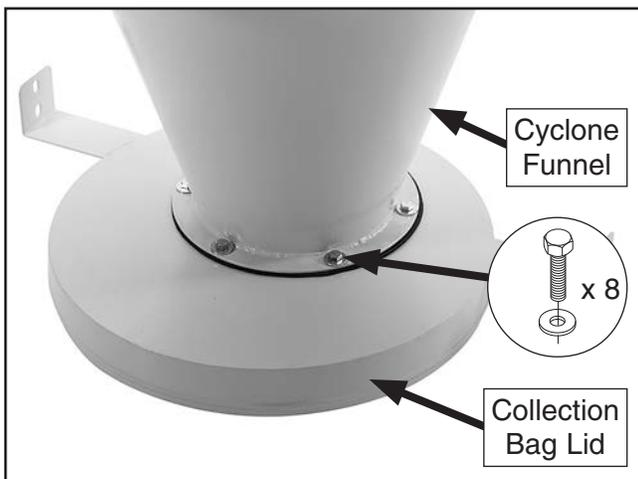

Figure 18. Collection bag lid mounted to cyclone funnel.
- Place rubber gasket on collection bag lid, then attach to cyclone funnel with (8) $\frac{5}{16}$ "-18 x $\frac{3}{4}$ " hex bolts and (8) $\frac{5}{16}$ " flat washers (see **Figure 18**). Finger-tighten for now.